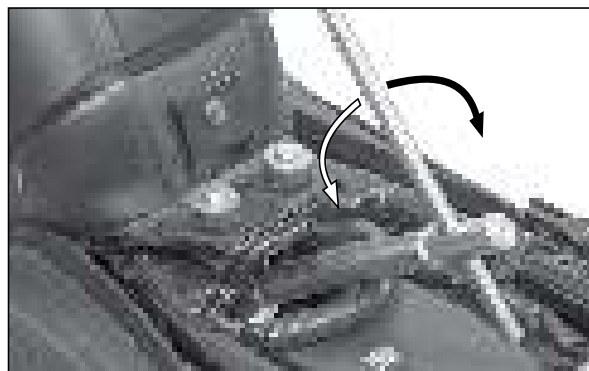

Fig. 6.158
- Apply torque to rotate the adjuster plate for adjustment until the desired pre-load is obtained. (Fig. 6.158)